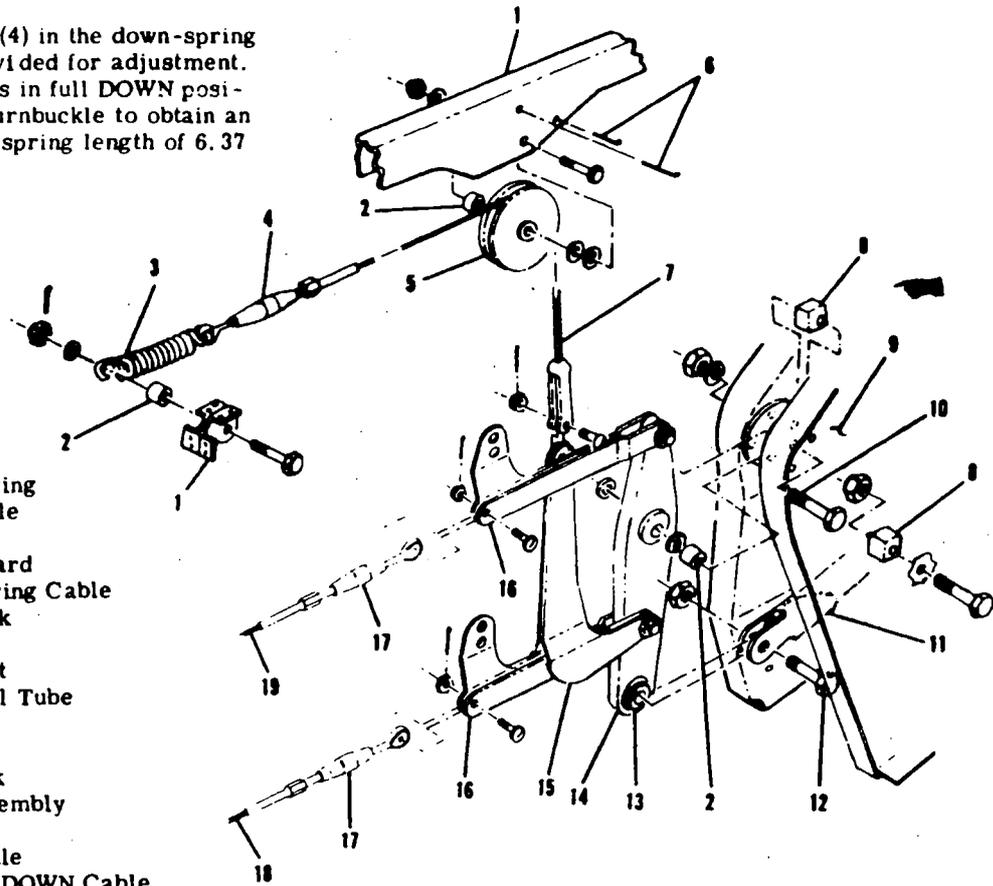

Figure 8-3. Elevator Bellcrank Installation
8-8. BELLCRANK. (Refer to figure 8-3.)
- B. Remove safety wire and relieve cable tension at turnbuckles (9).
- C. Disconnect cables at control column arm assemblies (3) and disconnect balance weight (5).
- D. Disconnect cables at bellcrank links Index 16, Figure 8-3).